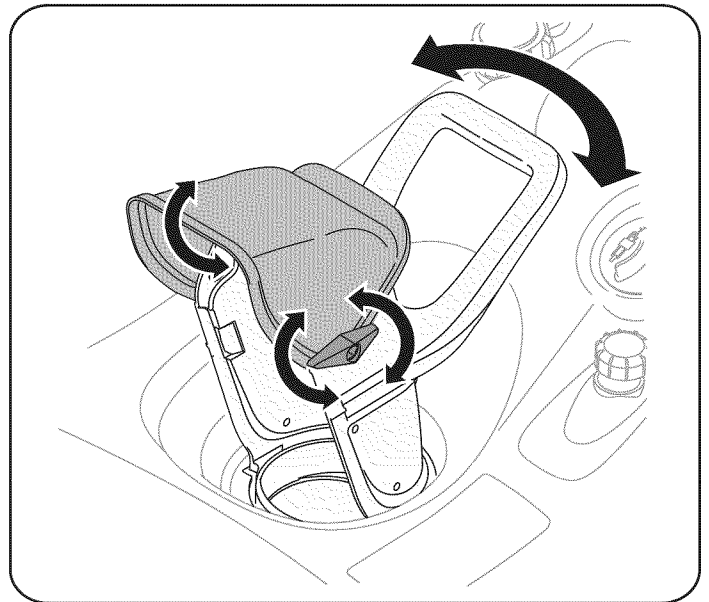

Figure 5
1. Loosen the wing knob found on the left side of the chute assembly and pivot the upper chute upward or downward to the desired pitch. Retighten the wing knob before operating the snow thrower. See Figure 5.
2. Position the chute assembly opening by using the chute handle to throw the snow in the desired direction. See Figure 5.